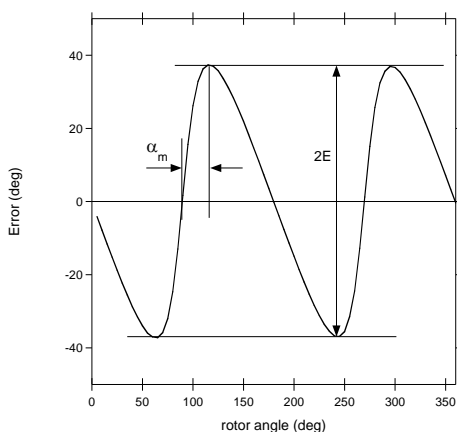

Figure 30: Error Curve in Side-Shift Configuration with BCT = 0
The k ratio depends on the magnet geometry and distance to the sensor. If the k ratio does not equal 1, the sensor output response is nonlinear with respect to the mechanical angle. The error curve has the shape of a double sinewave (see Figure 30). E is the amplitude of this error.
Next, plot the error curve (the MA600's output minus the real mechanical position vs. the real mechanical position) and extract two parameters: the maximum error (E), and the position of the maximum with respect to a zero crossing (a_m) (see Figure 30). The k ratio can be calculated with Equation (10):
Figure 30 shows the error curve.